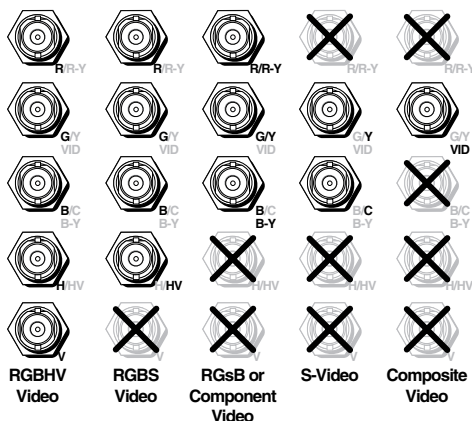

Figure 2-8 — BNC output connections for outputs 1 and 2
- ⑦ **Pass-through video output BNC connectors** — Connect RGB video displays to these two sets of female BNC connectors for unprocessed pass-through signals (RGBHV, RGBS, RGsB, RsGsBs, HDTV, component video, S-video, or composite video). See figure 2-8 for the relevant connector positions used in each video format.